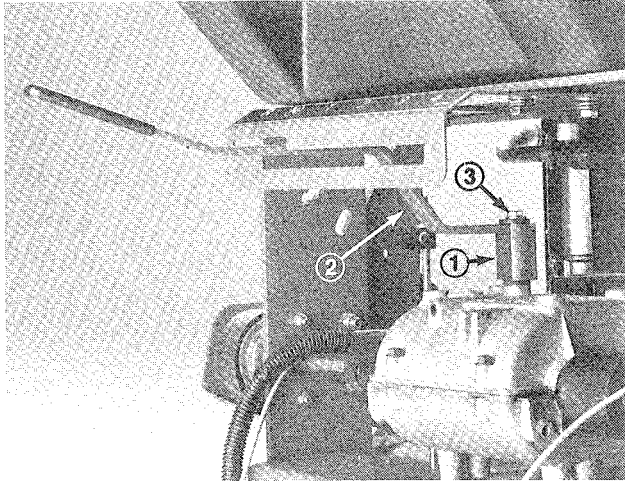

Figure 3
2. Insert shift lever thru slot in control panel and align mounting hole in lever with mounting block on transmission. Secure lever to transmission with 1/4–28 x 2" lg. capscrew and plain washer. Torque capscrew to 100–125 in – lb (Fig. 3).